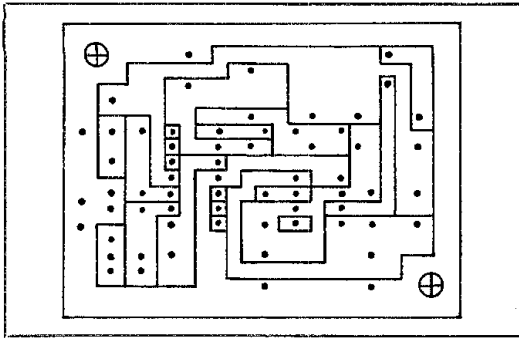
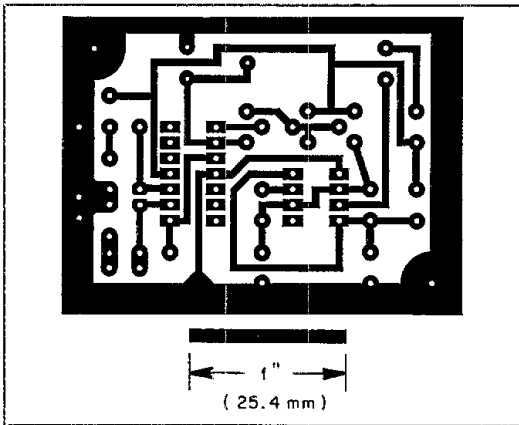
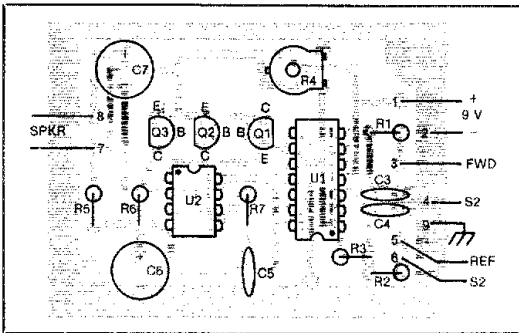
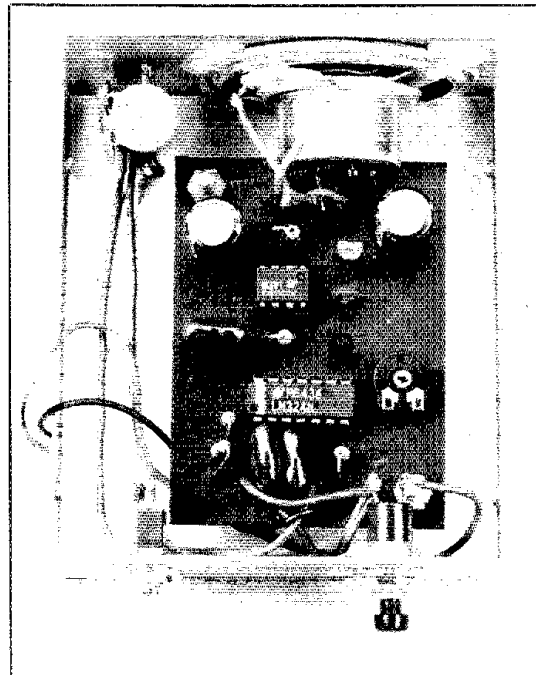

Fig 3—Hand-cut circuit board design.
Fig 4—A conventional PC-board design.
Fig 5—Parts-placement diagram for either PC-board configuration.
Fig 6—Internal view of the completed SWAILER. Note the position of the speaker on the rear panel.
There is nothing critical about parts placement except that C1 and C2, which are soldered across J1, should have leads as short as possible. There are two possibilities for PC boards for this project. Fig 3 shows the layout for a hand-cut PC board that I used in my first unit. A conventional version of this layout, suitable for etching, is shown in Fig 4. Parts placement is the same using either circuit board and is shown in Fig 5. Fig 6 shows placement of the PC board and speaker, and battery space in the cabinet.
Fig 3—Method for using a variable-output attenuator with the circuit of Fig 2. This technique leaves a great deal to be desired (see text). R16 is adjusted for the generator output level desired.
Fig 4—An audio-frequency generator that can be used to modulate the RF signal from the circuit of Fig 2. R1 sets the tone frequency and R2 determines the modulation level. This circuit is suitable also for use as a sidetone monitor or a code-practice oscillator.
receivers and small amplifiers. A continuously variable attenuator (50 ohms) is a complex thing to design and calibrate in microvolts (μV). We will not attempt that feat in this series because the mechanical aspects of the problem are a bit challenging for the beginner. A simple alternative is offered in Fig 3. A better approach to that of Fig 3 is discussed later in this article.
It is not necessary to generate a modulated signal for most of our amateur testing, but if you desire to have an audible tone when conducting receiver tests, you might consider the circuit of Fig 4. Output from this modulator can be coupled to the base of Q3 of Fig 2. This amplitude modulation (AM) will be useful when aligning AM receivers. FM could be generated with this test instrument by adding a varactor-diode modulator to the Q1 circuit. However, except for tests at 29 MHz, there is little need for an FM generator in the HF spectrum. The *ARRL Handbook* contains design data for FM modulators.
signal generator by using the circuit of Fig 3. The 500-ohm control can be mounted inside the case of the equipment and made adjustable from the front panel. The shortfall of this technique is that the generator output impedance will vary as the control is adjusted. At the lowest settings, the potentiometer will create a dead short.